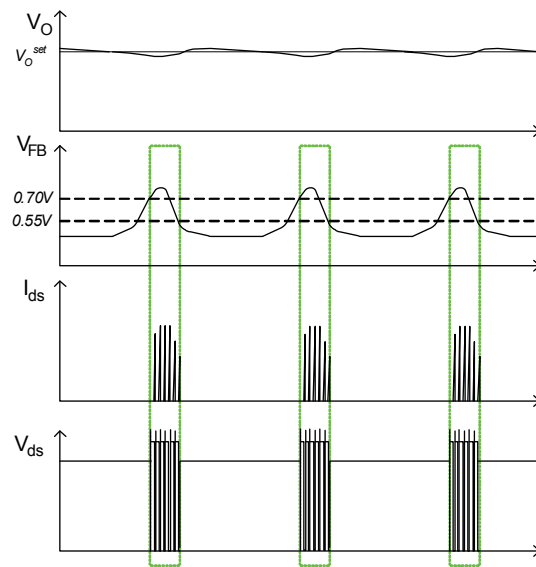

**Figure 19. Internal Soft-Start**
**5. Soft-Start:** The FPS has an internal soft-start circuit that slowly increases the feedback voltage, together with the SenseFET current, right after it starts. The typical soft-start time is 15ms, as shown in Figure 19, where progressive increment of the SenseFET current is allowed during the startup phase. Soft-start circuit progressively increases current limits to establish proper working conditions for transformers, inductors, capacitors, and switching devices. It also helps to prevent transformer saturation and reduces the stress on the secondary diode.